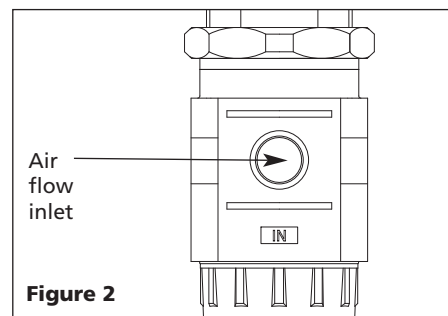

Figure 2
1. Locate the air flow inlet (See Figure 2, detail). Air must flow in the specified direction for this unit to function properly.
- Verify that the "IN" and "OUT" markings match the air flow direction. (See Figure 2.)